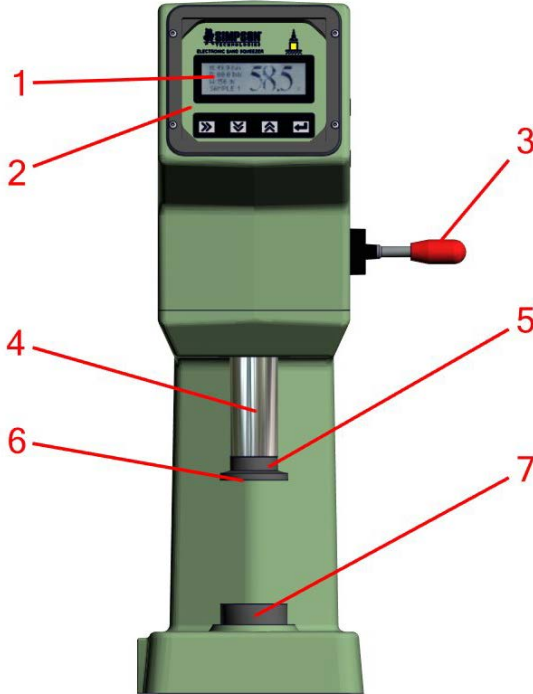

Figure 1: Front View
1. Ensure that the compacting head (Figure 1, Item 5) and main stem (Figure 1, Item 4) are retracted to their uppermost position by lifting the operating valve handle (Figure 1, Item 3).
4. Clean any loose dirt or sand from the surface of the pedestal support (Figure 1, Item 7) of the pneumatic squeezer.
8. While holding the mechanical load cell in an upright position (see Figure 9), place the lower pivot point of the mechanical load cell into position on the point of the lower load cell support and very slowly lower the upper load cell support and main stem using the operating valve handle (Figure 1, Item 3). Gently guide the point of the upper load cell support into the proper position on the upper pivot point of the mechanical load. Keep your hands clear of the upper pivot point of the mechanical load cell and upper load cell support while lowering the main stem. Continue to very slowly lower the main stem of the squeezer until there is a slight deflection shown on the deflection gauge of the mechanical load cell. Manually rotate the mechanical load cell on the pivot points between the upper and lower load cell supports to ensure that the mechanical load cell is properly seated.
10. While fully depressing the operating valve handle (Figure 1, Item 3), slowly increase the incoming air pressure using the regulator/filter/lubricator until the calculated deflection value is achieved on the dial indicator gauge of the mechanical load cell.
12. While holding the mechanical load cell gently lift the operating valve handle (Figure 1, Item 3) to fully retract the upper calibration support and main stem of the sand squeezer to its upper resting position.
16. Reinstall the compacting head (Figure 1, Item 5) by turning it clockwise on the main stem until it is hand tight.
3. Ensure the compacting head and main stem are retracted in their most upward position by lifting operating handle upwards (Figure 1, Item 3).
3. Ensure the compacting head and main stem are retracted in their most upward position by lifting operating handle upwards (Figure 1).